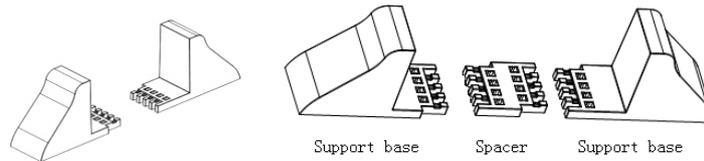

Fig.2-1 Support bases and spacers assembly
- (1) Take out the support bases and spacers and then assemble the spacer and the support bases, shown as Fig.2-1.